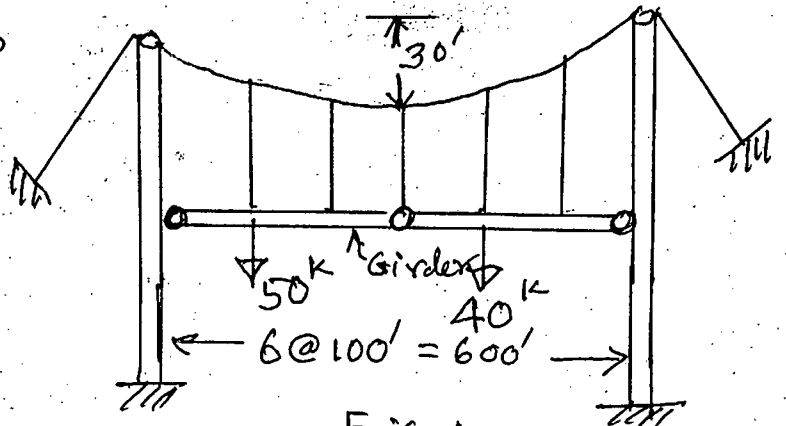

Fig. 4
4. Determine hanger force and draw shear force and bending moment diagram for the Girders of the suspension bridge shown in Fig. 4.